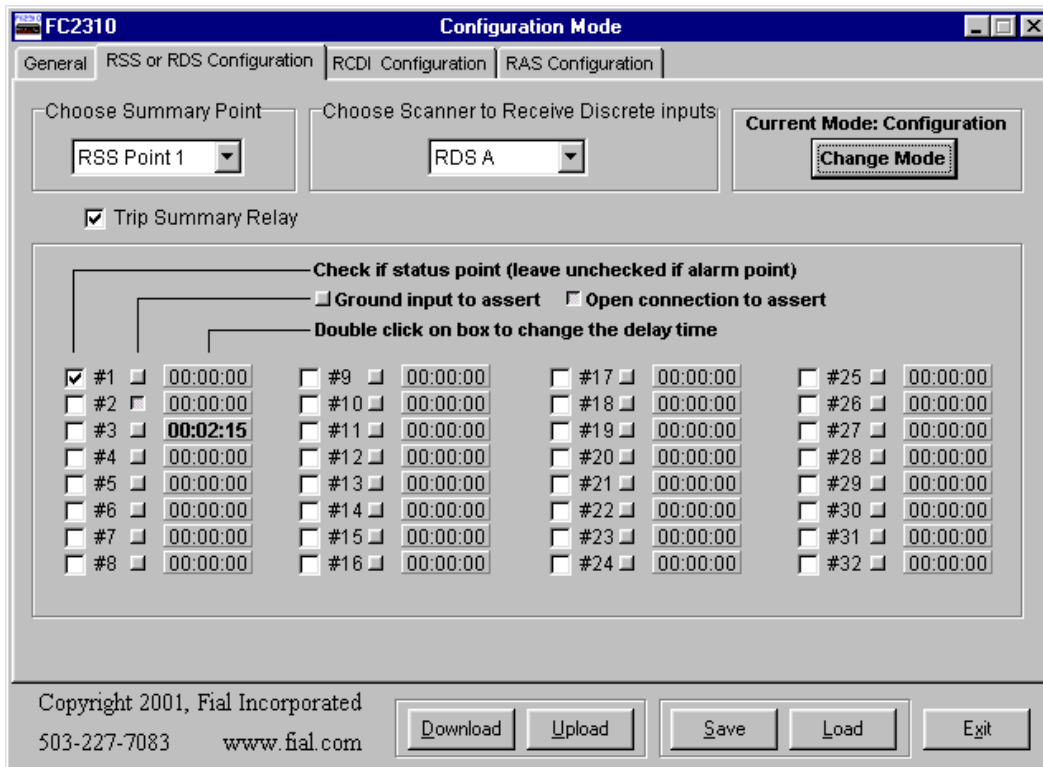

FIGURE 11. RSS OR RDS PAGE
If a box is checked, then the corresponding input is a status point. Status points do not cause the summary bit to be set when they are asserted at the input connector. Status points are not latched, and may be 'missed' by the MCS-11 master if it polls at the instant that the status point is unasserted. In FIGURE 11, point #1 is designated as a status point. All the others are alarm points.
**GROUND INPUT TO ASSERT:** Each point can have its input set for normal operation (ground the input to assert it) or inverted operation (disconnect from ground to assert the point). Click on the Ground Input To Assert buttons to toggle their states. For example, in FIGURE 11 only point #2 is set for inverted input. This means that point #2 is normally connected to ground for an unasserted condition and asserted (in alarm), when disconnected from ground. The other points in this scanner are asserted whenever they are connected to ground.
The delay value for each point may be set with one second resolution up to 18 hours. In FIGURE 11, point 3 has a delay setting of 2 minutes and 15 seconds. Therefore, an input for point number 3 must be asserted continuously for 2 minutes and 15 seconds before the point will be set in the RDS scanner and reported to the Master. The event will not be reported at all if the point is only asserted for a period less than 2 minutes and 15 seconds.